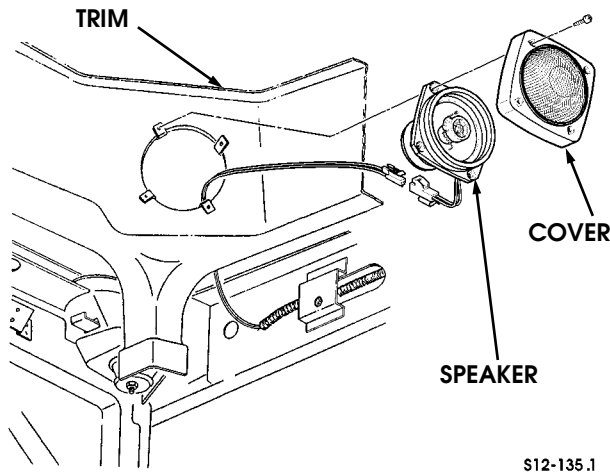

Figure 12-114.9: Right Front Speaker Model 89.
3. Remove four screws, clips, cover, and right speaker from trim (Figure 12-114.9).
4. Connect two leads to right speaker (Figure 12-114.9).
3. Remove four screws, clips, cover, and right front speaker from trim (Figure 12-114.9).
7. Connect two leads to right front speaker (Figure 12-114.9).